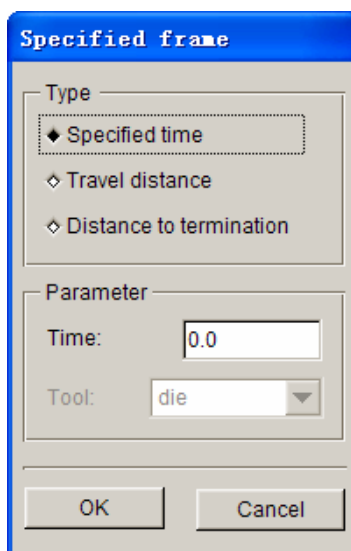

Figure 8.2.79 Input Specified Frame for Specified Time
**SPECIFIED TIME:** Add an output frame by specified time. See Figure 8.2.79 for the interface of this option. The user may enter specified time value in the TIME input box at the lower part of the dialog box. Note: Specified time 0 is the stages starting point. The user may add more time points to control D3PLOT file output at the specified time. If the user enters longer time than current stage calculation time, the program will ignore the invalid input value. Click OK button to complete the operation.